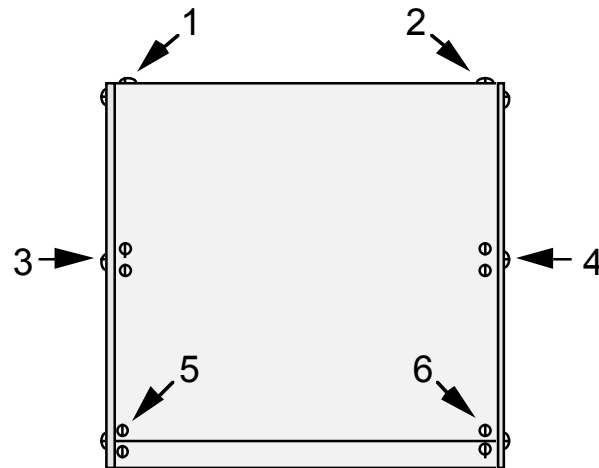

Figure 1
- Remove the six screws identified in Figure 1 from the K2 top cover, then remove the cover itself. Note that screws #3 and 4 are removed from the side panels, leaving two 2-D fasteners attached to the top cover.
- Re-install the top and bottom covers (Figure 1).